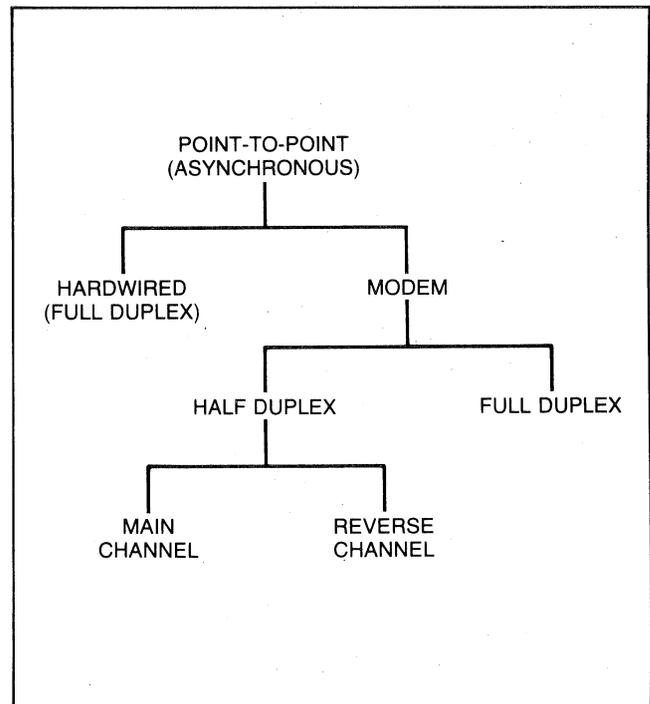

Figure 7-1. Point-to-Point Decision Tree
Having selected point-to-point you must now make the series of decisions illustrated in figure 7-1. You will notice that in that figure the overall set of decisions is organized as a tree structure and that when you make each choice you then follow the associated branch to the next set of alternatives. Point-to-point configurations always operate in asynchronous mode.
**HARDWIRED CONNECTIONS.** If you have chosen a point-to-point hardwired connection the only decision that remains to be made is the type of cable to be used. The available cables are summarized in tables 7-1 and 7-2. As noted in figure 7-1, an HP 2626A hardwired connection is always full duplex (the HP 2626A does NOT support half duplex hardwired).
**MODEM CONNECTIONS.** If you have chosen a point-to-point modem connection you must now decide what type of modem to get. As noted in figure 7-1, point-to-point as supported by the HP 2626A always employs asynchronous transmission. You will therefore be limiting your choice of modem to the asynchronous variety.